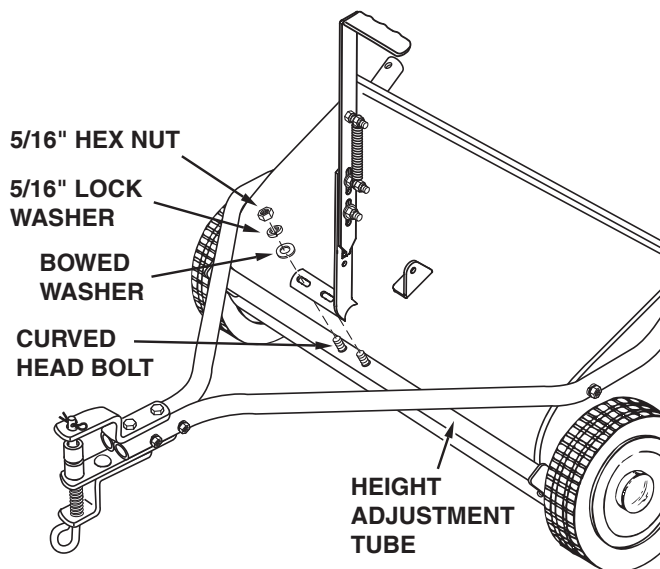

FIGURE 9
- Assemble the height adjust handles to the height adjustment tube on the front of the sweeper housing. Use two curved head bolts, bowed washers, 5/16" lock washers and 5/16" hex nuts. **Do not tighten yet.** See figure 9.